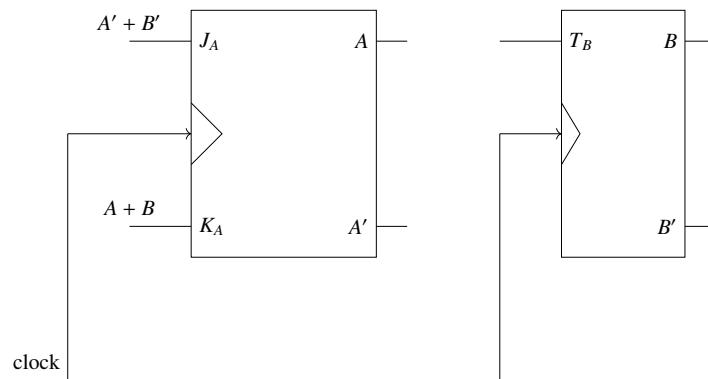

Fig. 5.13
13. Given below in Fig. 5.13 is the diagram of a synchronous sequential circuit with one $J-K$ flip-flop and one T flip-flop with their outputs denoted as A and B respectively, with $J_A = (A' + B')$, $K_A = (A + B)$ and $T_B = A$. Starting from the initial state ($AB = 00$), the sequence of states (AB) visited by the circuit is (GATE IN 2021)